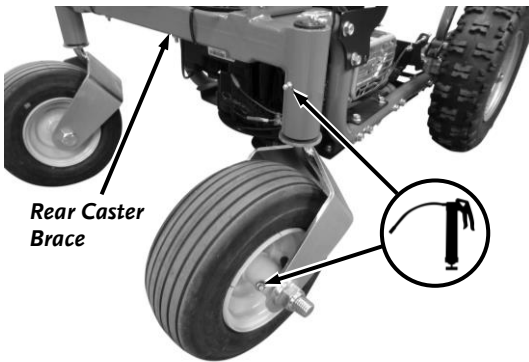

Figure 34
1. There are four Grease Fittings for the Caster Wheels: One at the right and left side of the Rear Caster Brace, and one on each Wheel Hub (**Figure 34**). Grease these four Fittings with #2 lithium grease, to keep the Wheel spinning freely, at least every 25 hours of operation.